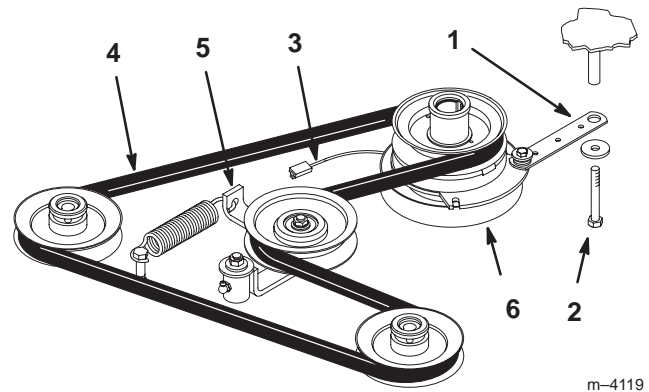

Figure 55
2. Remove the bolt from the clutch strap and unplug the clutch electrical wire (Fig. 55).
3. Pull the spring loaded idler to the side. Remove the traction belt from the engine and hydro pump pulleys (Fig. 55).
4. Install the new belt around the engine and hydro pump pulleys (Fig. 55).
5. Pull the spring loaded idler to the side and align the belt. Release pressure on the spring loaded idler (Fig. 55).